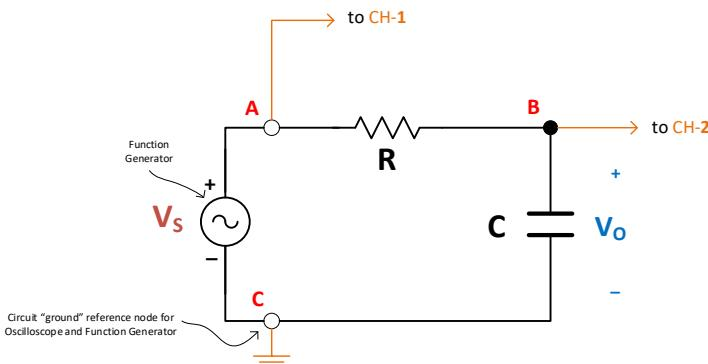

Figure 3.0: Resistance - Capacitance (R-C) Circuit
- (c) The R-C circuit in **Figure 3.0** introduces a **phase-shift** (Θ) between the output signal, **V_O** and the input signal source, **V_I**, the amount of phase-shift depends on the frequency, **f** of the input signal. This specific phase relationship can be expressed as: $\Theta^\circ = \tan^{-1}(2\pi f \cdot C \cdot R)$
Table 2.1: Theoretical phase-shift values of Figure 3.0 circuit
- (f)** Use **MultiSIM** to construct and simulate the circuit in **Figure 3.0**, with resistors $R = 2k\Omega$ and $C = 0.1\mu F$. Ensure that *node C* of the circuit is used as the *common ground* for all equipment.
Table 3.2: MultiSIM measured phase-shift values of Figure 3.0 circuit